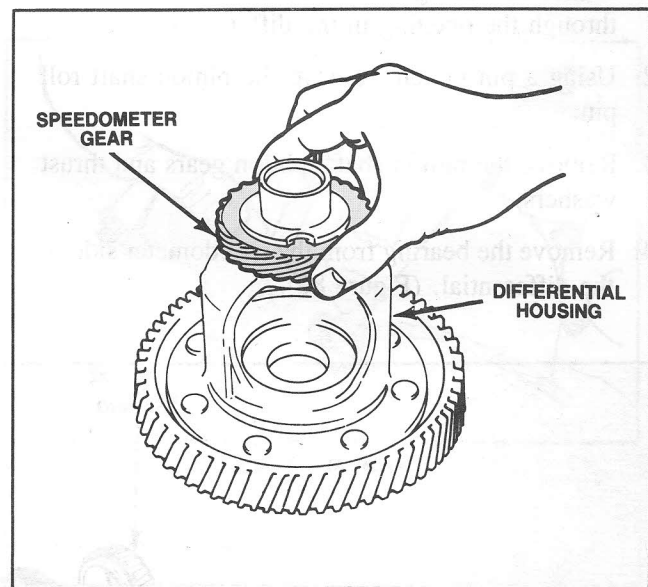

Figure 84 Speedometer Gear Installation
1. Install the speedometer drive gear. (Figure 84).